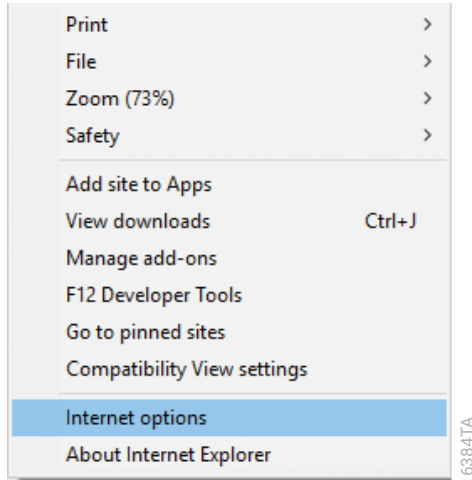

Figure 120. Selecting Internet options.
1. Select **Internet Options** from the gear icon at the top right of the browser (Figure 120).